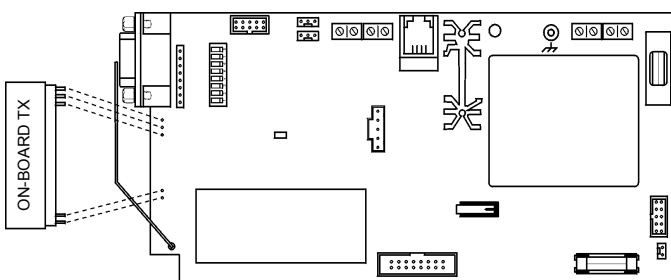

Figure 3: Plugging in the On-Board Transmitter
5. To support the EL-2626WSM, the *infinite*'s Main board must have the on-board transmitter installed. Plug the on-board transmitter into the infinite control panel's Main board as shown in Figure 3.